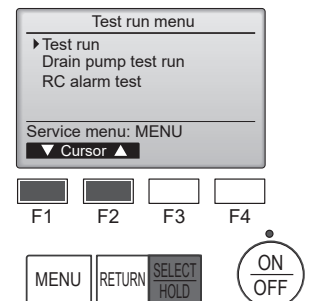

Fig. 7-2
- (2) Select "Test run" from the Test run menu, and press the [SELECT/HOLD] button. (Fig. 7-2)
- (3) The test run operation starts, and the Test run operation screen is displayed.